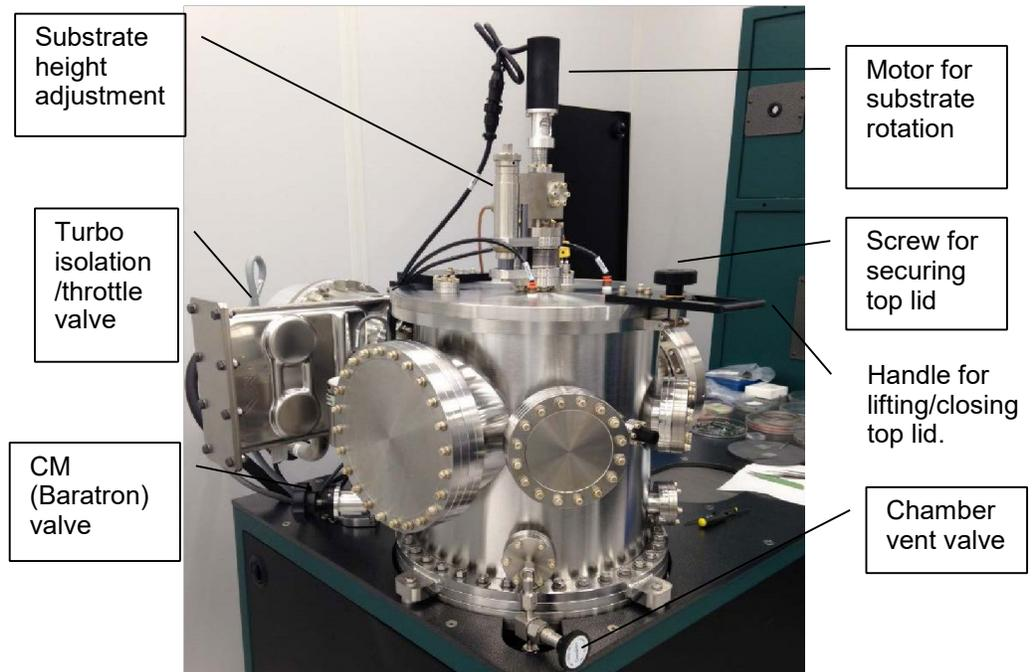
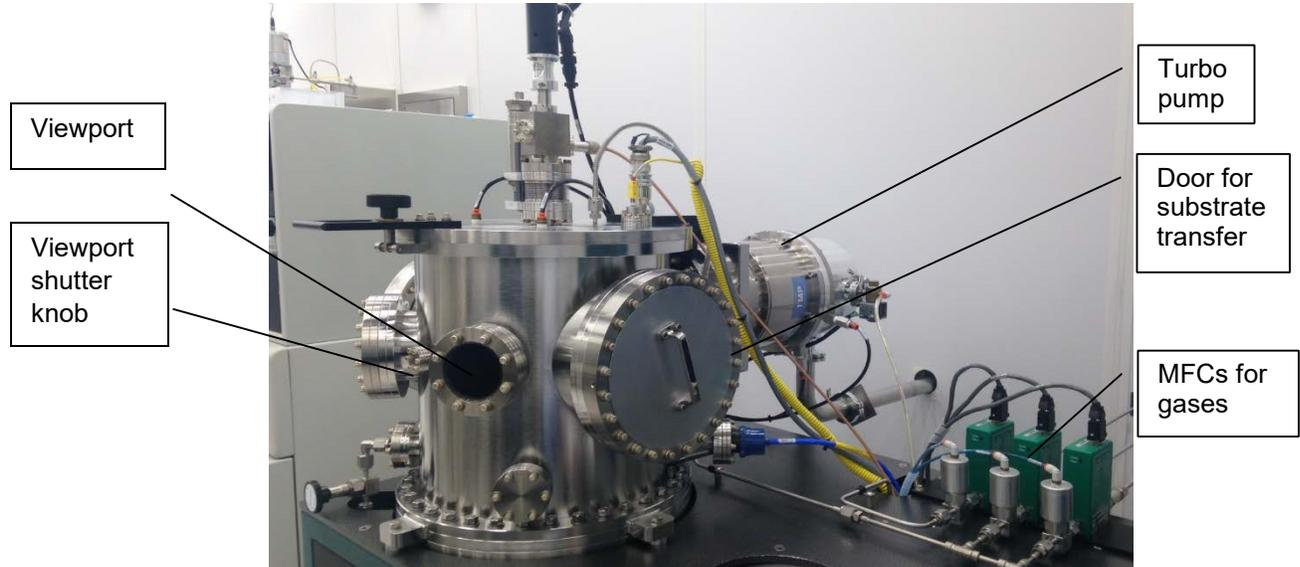
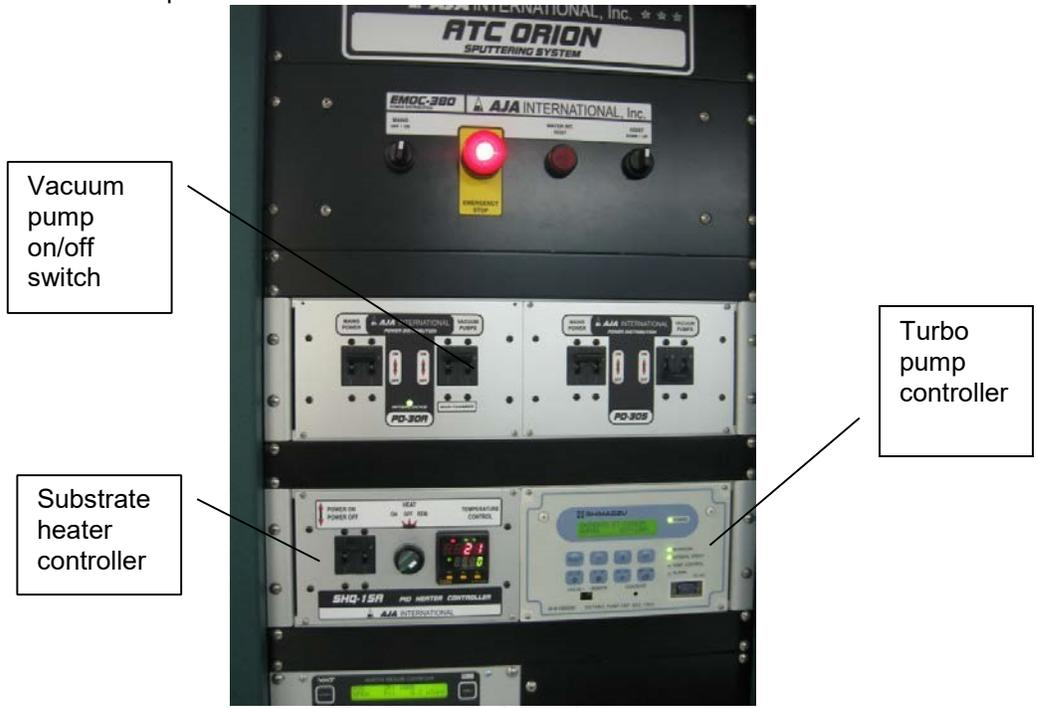

Figure 3: Sputter chamber view from left.
Figure 4: Sputter chamber view from right
Figure 5: Control Rack (upper).
- a) If turbo pump is running: (i) ensure turbo-isolation valve is closed (see PRESSURE CONTROL on laptop), (ii) ensure Baratron valve is closed (manually turn it clockwise (Figure 3)), (iii) the ion gauge is off (Press the IG1 button (Figure 6)), (iv) turn the pump switch off (Figure 5) to turn off the turbo and backing pump. When the turbo stops spinning (rotation 0% on its controller in Figure 5), the manual chamber vent valve (Figure 3) can be slowly opened to speed up venting.
- b) If the turbo pump is off: (i) ensure turbo isolation valve is closed (on laptop), (ii) ensure Baratron valve is closed (if not, manually turn it clockwise (Figure 3)), (iii) the ion gauge is off (if not, press the IG1 button (Figure 6)), (iv) the manual chamber vent valve (Figure 3) can now be slowly opened for venting.
- c) When the Convectron reads about 760 Torr (atmosphere), the substrate transfer door (Figure 4) can be opened and the manual vent valve should be closed.
- d) Raise it against the propeller in the center of the quartz plate (Figure) and turn the propeller clockwise with your left hand by turning the motor shaft on the top lid (Figure 3). This will engage the propeller in the grooves on the back of the substrate plate.
- a) Close the top lid gently using the handle (do not drop it!) and tighten the screw (Figure 3). b) Close the side door (Figure 4).
- c) Ensure the vent is off (manual screw valve that closes clockwise, Figure 3).
- e) Turn the pump on/off switch to ON (Figure 5).
- g) Watch the turbo speed going up on its controller (Figure 5). It should reach 100%. If it does not, turn the pump switch off and let the staff know.
- h) Open the Baratron valve CCW (Figure 3).
- d) Pressure Control: It is same as turbo isolation valve. After opening the gases, change this to pressure mode and enter the sputter pressure desired (generally between 1- 5 mT). This controls the pressure using the Baratron reading, ensure its manual valve is open (Figure 3).